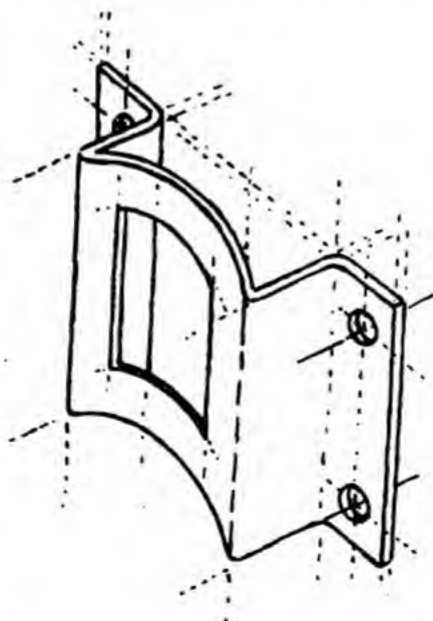

Figure 6-2.—Perspective detail sketch of oil filter bracket.
2. A perspective detail sketch of the bracket which supports the oil filter. You will immediately notice the curved part of the bracket that fits the round body of the filter. A perspective detail sketch looks exactly like the part it represents. See figure 6-2.